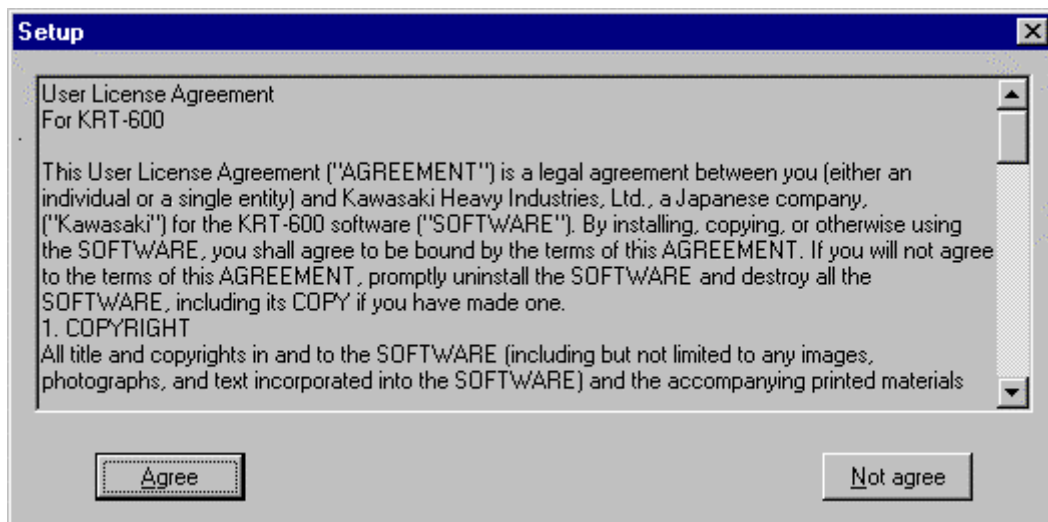

Fig. 2 Product License Agreement
- (2) Click [Next] to display the Product License Agreement screen shown in Fig. 2. Click [Cancel] to close the installer.